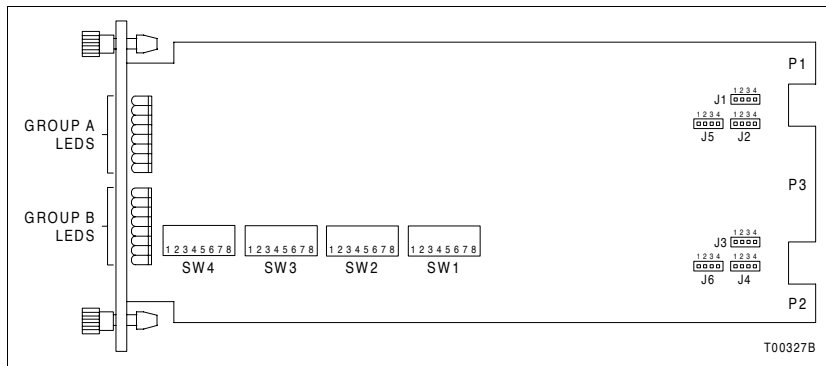

Figure PR5-1. INNISO1 Layout
This procedure describes the steps required to set up the INNISO1 module of the HCU interface (Fig. PR5-1). Both switches and jumpers must be set before putting the module into operation.
- 1. Set the node address with switch SW1 (Fig. PR5-1). The address must be unique. Valid node addresses are from one to 250. Table PR5-1 lists some example node address settings.